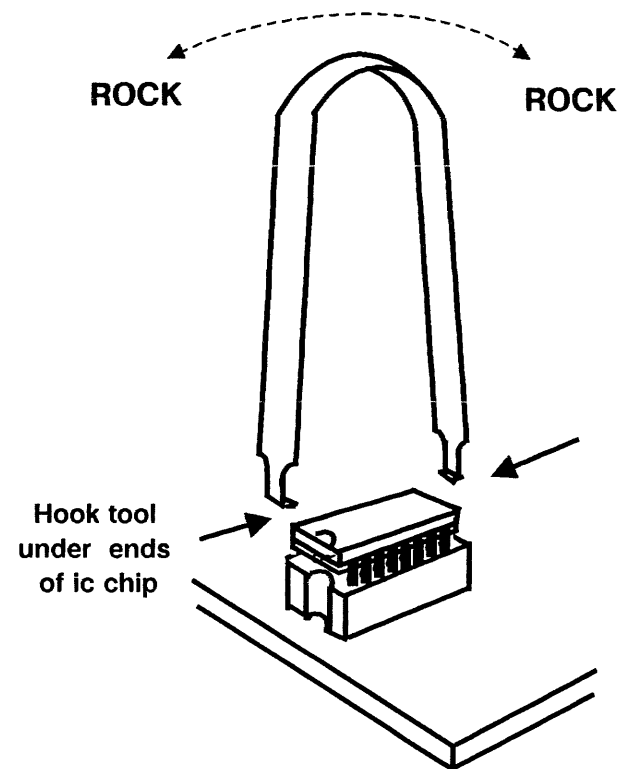

Figure 15. IC Chip Removal
- a. Squeeze the two legs of the tool together so that the IC chip is held firmly (Figure 15).